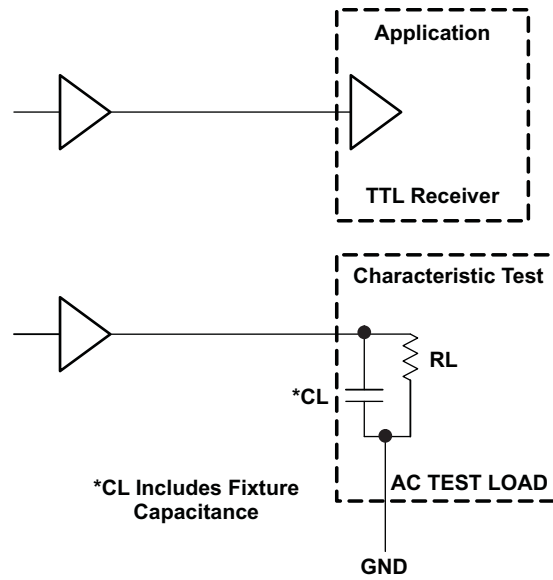

Figure 1. TTL Output Loading Used for Device Evaluation
- (1) Device meets the specifications after thermal equilibrium has been established when mounted in a test socket or printed circuit board with maintained transverse airflow greater than 500 lfm (2.54 m/s). Electrical parameters are assured only over the declared operating temperature range. Functional operation of the device exceeding these conditions is not implied. Device specification limit values are applied individually under normal operating conditions and not valid simultaneously.
- (2) Input parameters vary 1:1 with V_{CC} . V_{CC} can vary $\pm 0.3\text{ V}$.
- (3) TTL output $R_L = 500\ \Omega$ to GND and $C_L = 20\text{ pF}$ to GND; see Figure 1.